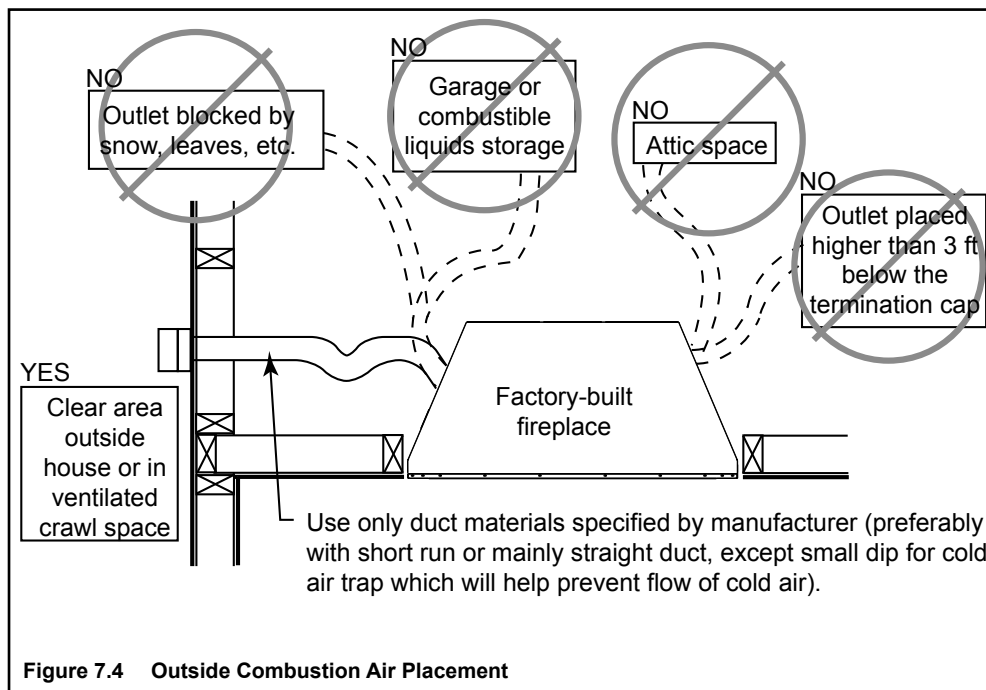

Figure 7.4 Outside Combustion Air Placement
- Location of chimney air kit (see Figure 7.4)